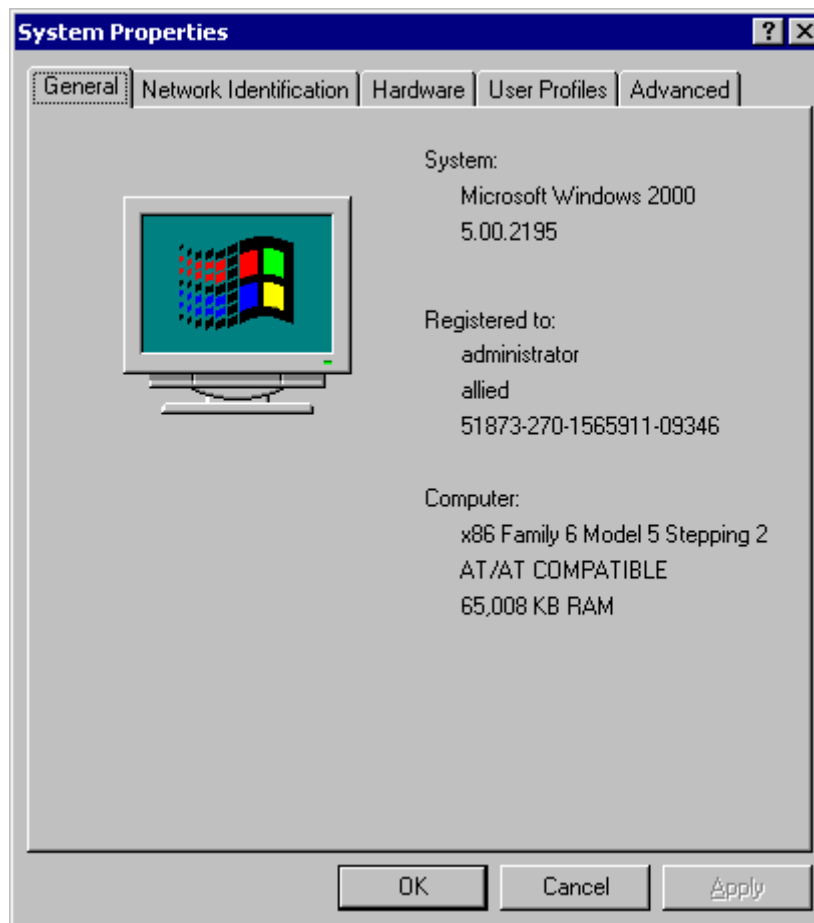

Figure 52 Properties Window
1. From the desktop, right-click **My Computer**, then select **Properties**. The window shown in Figure 52 is displayed.